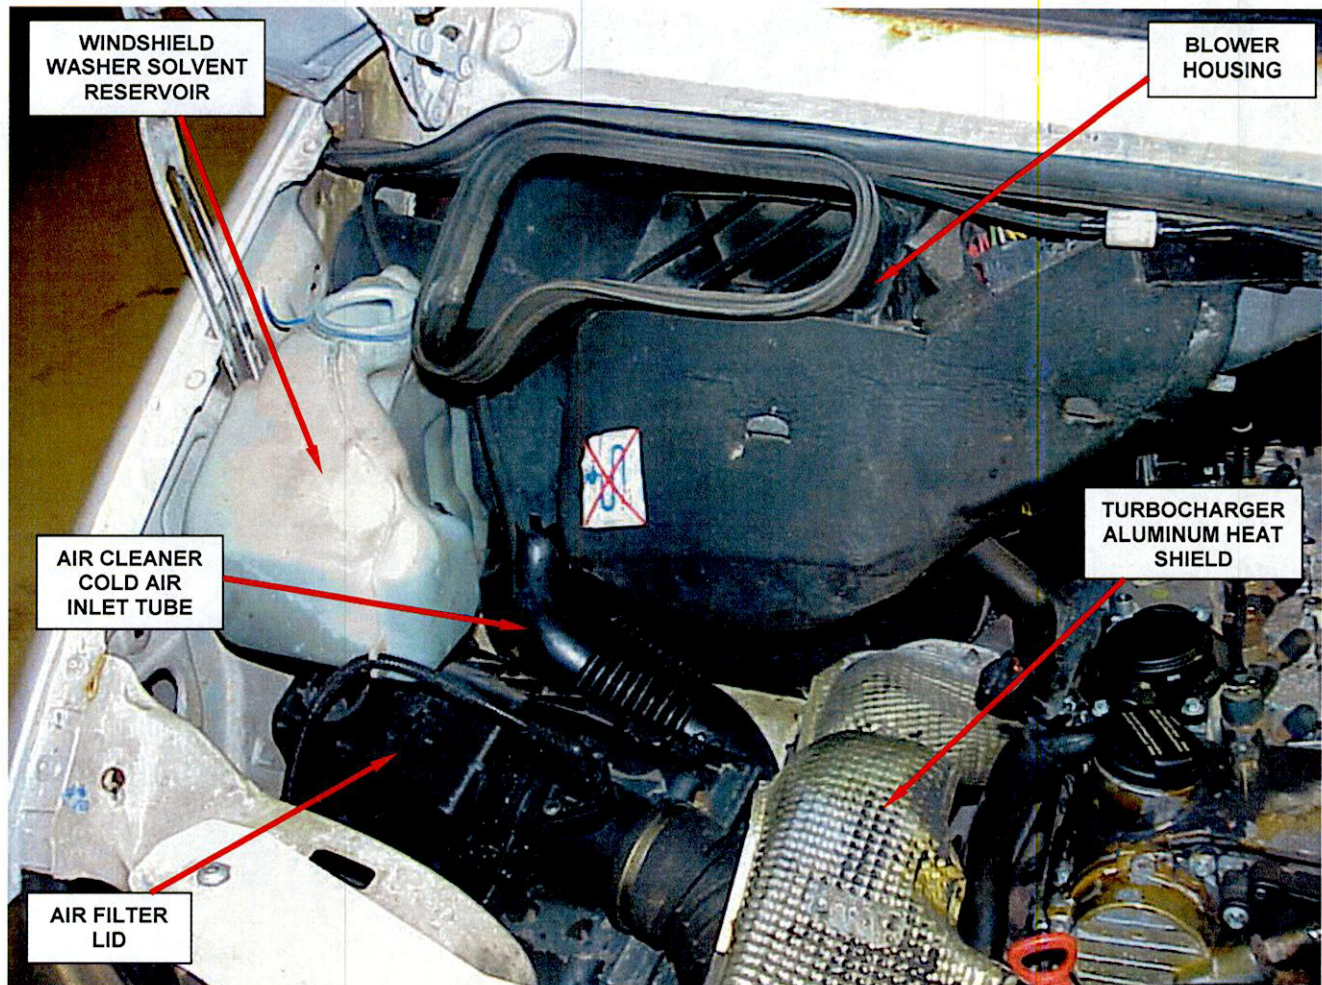

Figure 8 – Component Identification
1. Remove the turbocharger aluminum heat shield (Figure 8).
2. Remove the air filter lid (Figure 8).
3. Remove the windshield washer solvent reservoir (Figure 8).
4. Remove the air cleaner cold air inlet tube (Figure 8).
5. Remove the blower housing as an assembly (Figure 8).
36. Install the blower motor housing (Figure 8).
37. Install the air cleaner cold air inlet tube (Figure 8).
38. Install the air filter lid (Figure 8).
39. Install the windshield washer solvent reservoir (Figure 8).
40. Install the turbocharger aluminum heat shield (Figure 8).